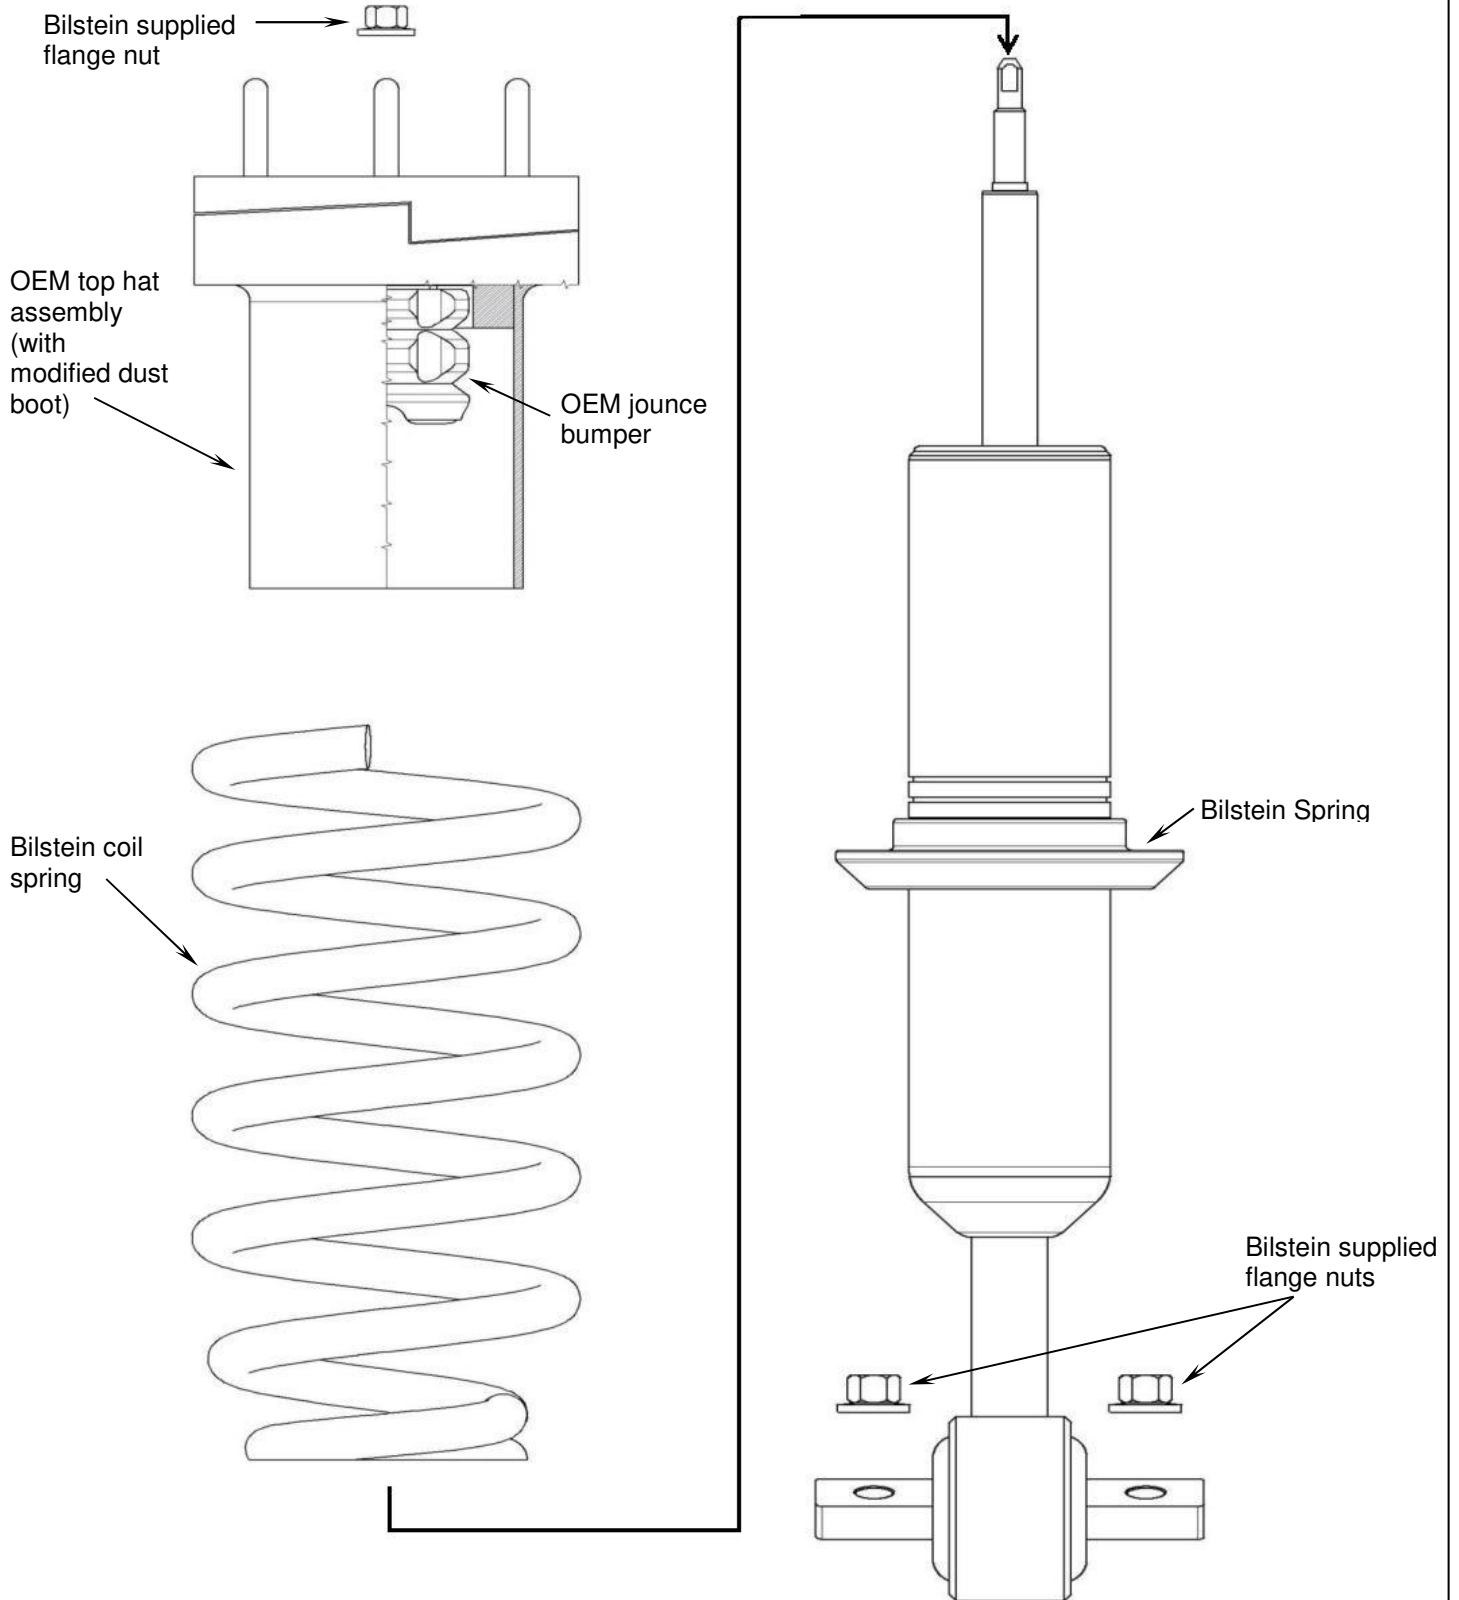

Figure 5
- G. Using an appropriate spring compressor, compress the Bilstein coil spring and assemble it with the new Bilstein shock. Ensure that the Bilstein coil spring is installed in the direction shown only. Refer to Figure 5.
- H. Install the OEM top hat assembly (which includes the modified OEM dust boot, OEM top mount plate, and OEM jounce bumper) over the threaded stem on the new Bilstein shock and on top of the spring. Refer to Figure 5.
- K. Install the provided new Bilstein flange nut onto the piston rod tenon and tighten to 25 Nm (19 lb/ft). Refer to Figure 5 (shown above the top hat assembly).